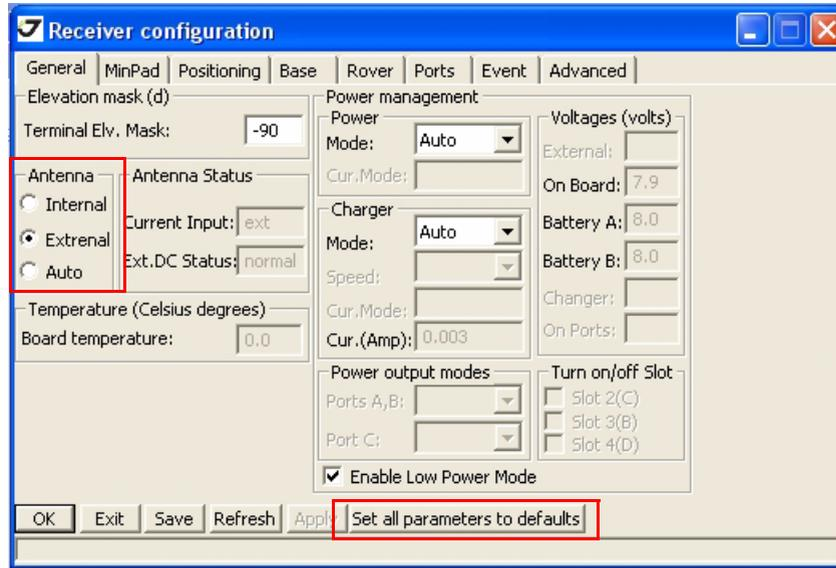

Figure 3-13. Set all parameters to defaults
- In the *General* tab click *Set all parameters to defaults* and set up the antenna parameter: *Auto*, *Internal* or *External*, when external antenna is used.(Figure 3-13).